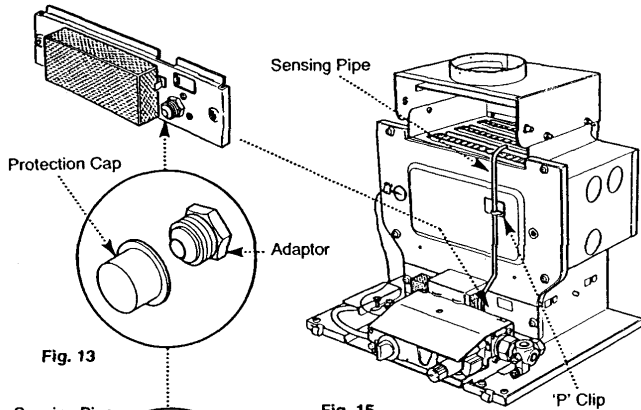

Fig. 13
- 1 Remove the protection cap from the sensing pipe adaptor on the burner mounting plate. Slacken the screw retaining the sensing pipe 'P' clip (Fig. 13 & 15).